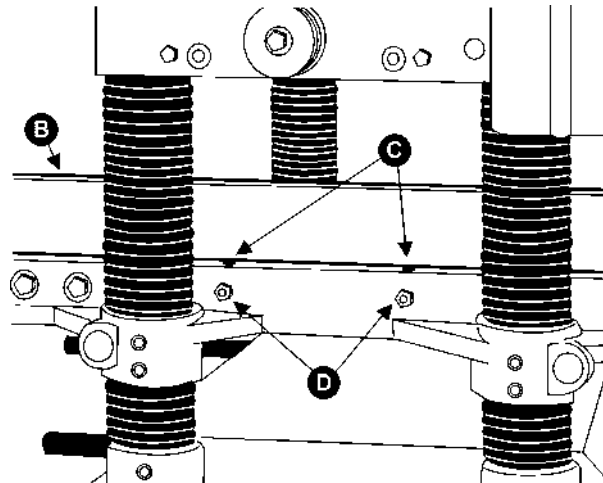

FIGURE 11
2. Lay a straight edge (B), Figure 11, across both rollers.
3. On one side of the table, loosen the screws (C) with an Allen wrench, and turn the eccentric shafts (D) to raise or lower the rollers.
4. When the proper height is achieved, tighten screws (C).